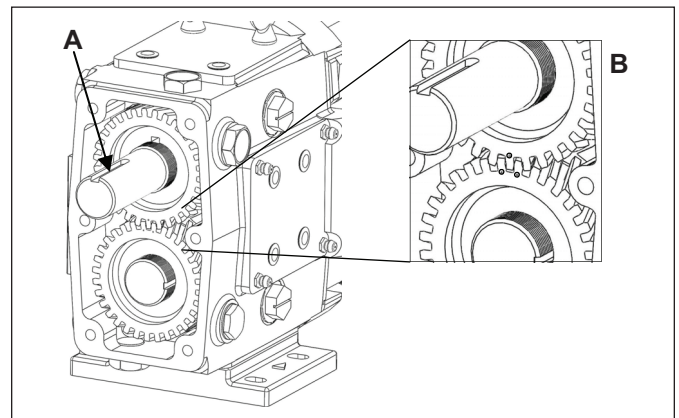

Figure 53. Installing Gears with Correct Timing
8. Once the gear keys are installed, orientate the shafts so that the keyways on the drive shaft are pointing in the 12 o'clock direction (Figure 53, A). Slide the right-handed gear with the single punch mark onto the drive shaft. Slide the second gear with two punch marks on the short shaft. To time the gears, align so that the single punch mark falls between the two punch marks on the opposite gear (Figure 53, B).